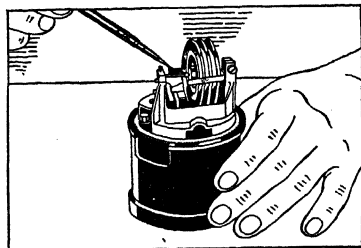
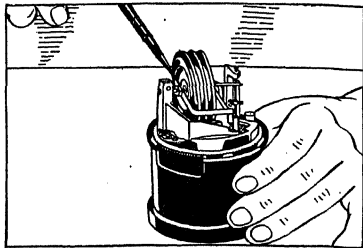

Fig. 19.—Do not remove pins shown here.
Fig. 20.—These nuts should not be removed.
*It is specially important that the pins indicated in Fig. 19 and the nuts pointed out in Fig. 20 should not be moved, on all Kollsman sensitive altimeters.*